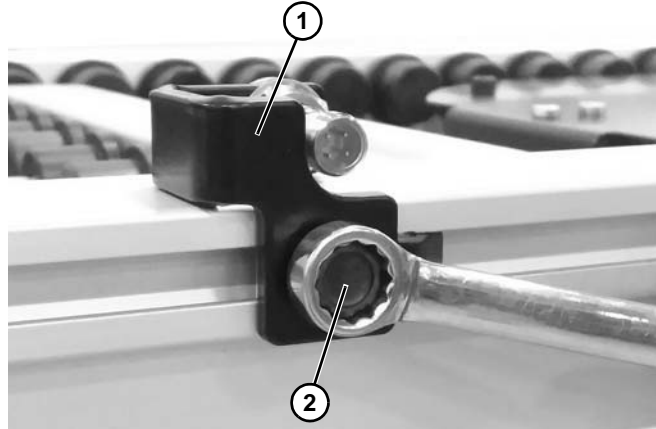

Figure 4
2. Attach sensor (**Figure 4, item 1**) to conveyor with bolt (**Figure 4, item 2**).